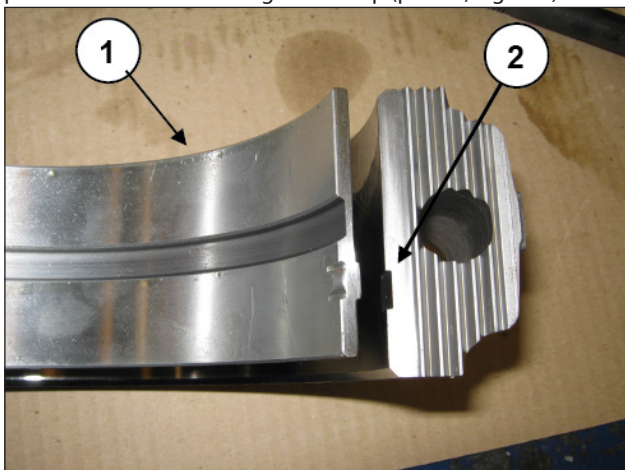

Fig. 102
Apply the lower half-bearings to the conrod caps (pos. ①, Fig. 102) ensuring that the half-bearing reference notches are positioned in their housing on the cap (pos. ②, Fig. 102).